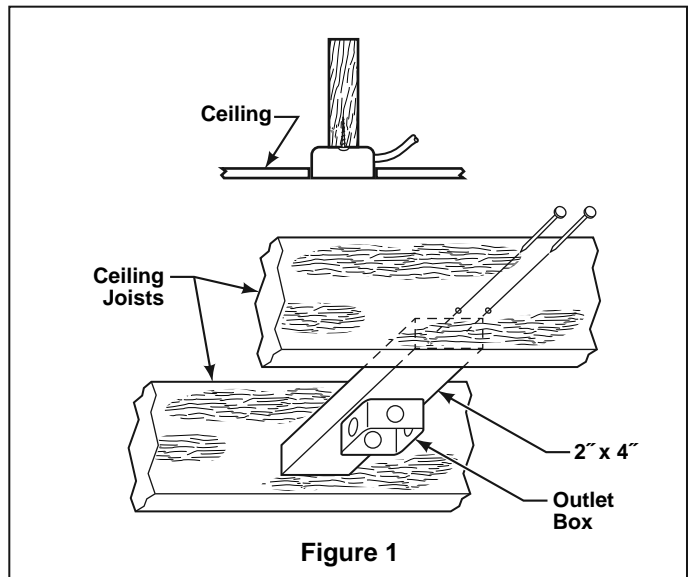

Figure 1
NOTE: If you are uncertain of part description, refer to exploded view illustration. (Figure 1, page 13)
Your new ceiling fan will require a grounded electrical supply line of 120 volts AC, 60 Hz, 15 amp circuit. The outlet box must be securely anchored and capable of withstanding a load of at least 50 lbs. **Figure 1** depicts different structural configurations that may be used for mounting the outlet box.
1. Remove the Hanger Ball by loosening the setscrew in the Hanger Ball until the ball falls freely down the Downrod. (Figure 1) Remove the Pin from the Downrod, then remove the Hanger Ball. Retain the Pin and Hanger Ball for reinstallation in Step 5.